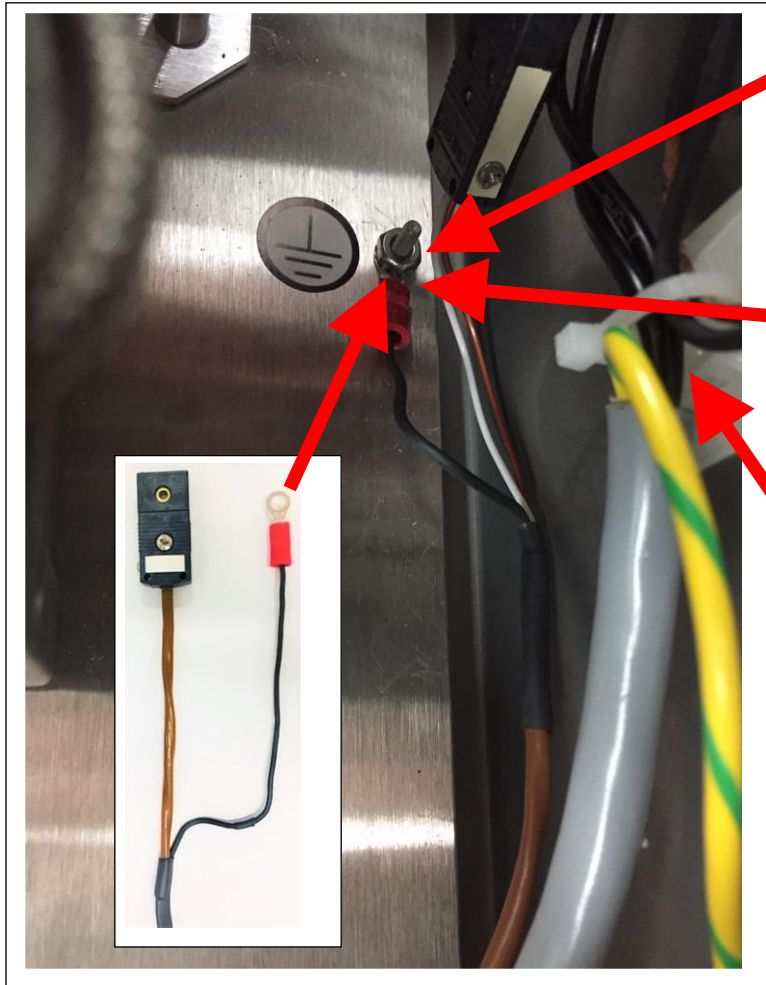

Figure 19
- c. Remove star-nut from ground lug of the thermocouple / line voltage ground point, and remove the wire(s) on the back plate. Reattach star-nut to the lug screw for later use (Figure 19).
- Remove the previously installed star-nut from the ground lug screw on the back plate for the thermocouple ground wire coming from the umbilical (Figure 19).